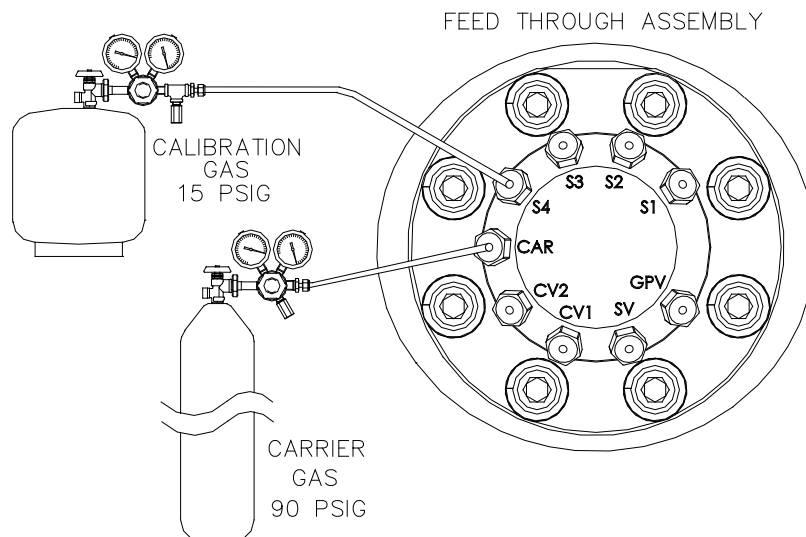

Figure 3-45 Carrier and Calibration Gas Connections
- 1) Locate the carrier gas input port (CAR) on the NGC feed-through assembly (see Figure 3-45).